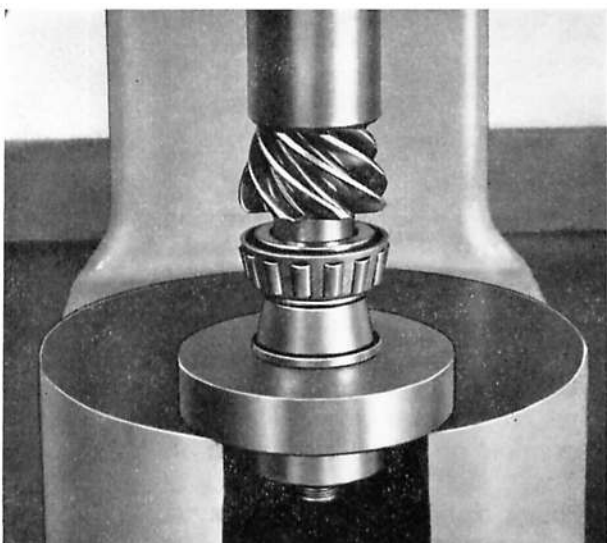

Fig. J.28. Pressing the pinion rear bearing inner race on to the pinion shaft
1. Press the pinion rear bearing inner race right home against the pinion shoulder (Fig. J.28).